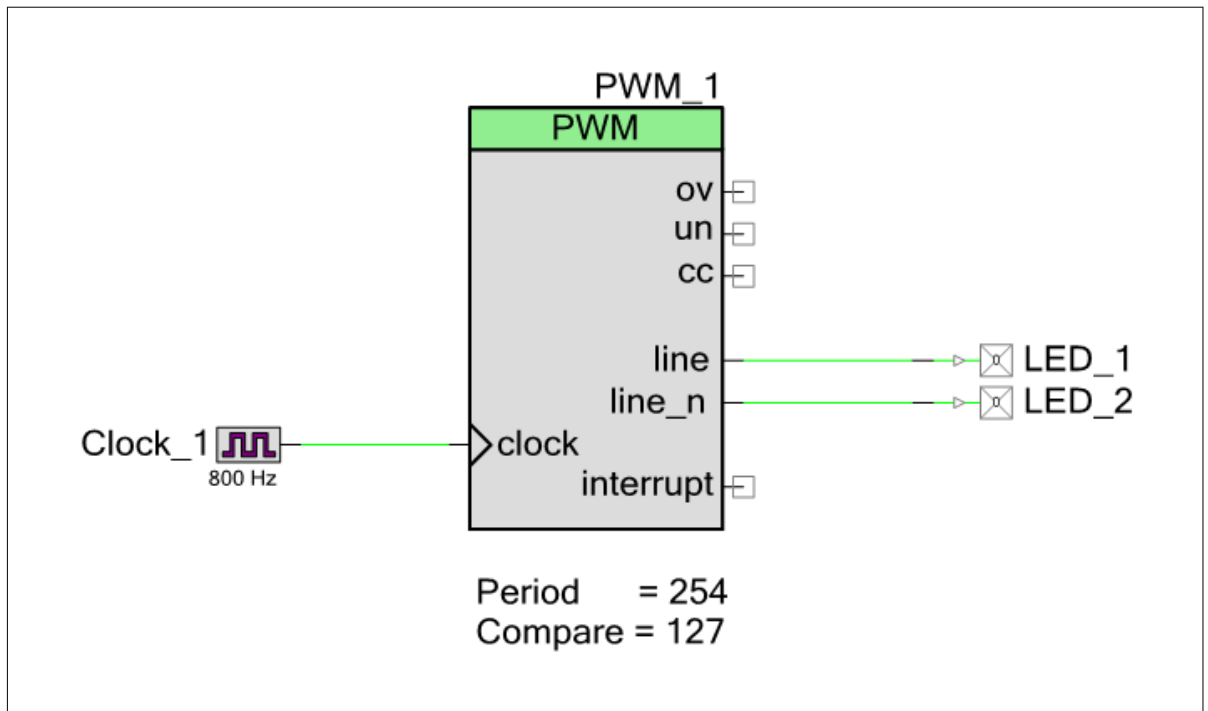

Figure 45 **Wiring the schematic**
11. Wire the Components together, as shown in Figure 45.